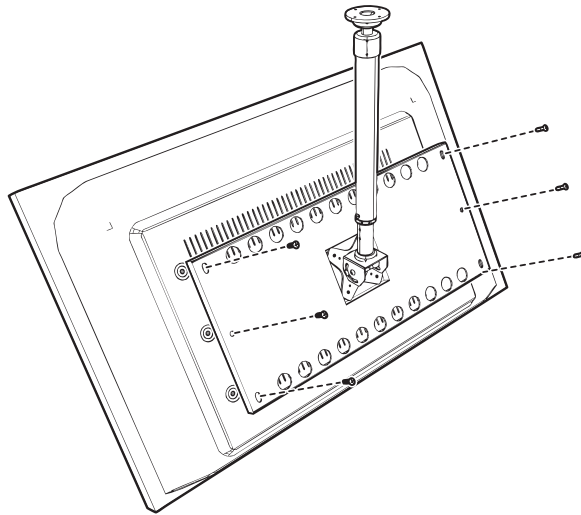

Figure 3. Attaching the Monitor to the Adapter Plate
3. Refer to Figure 3. Align the holes on the sides of the adapter plate with the holes on the back of the monitor. Install the screws removed in step 1 to secure the monitor to the adapter plate.